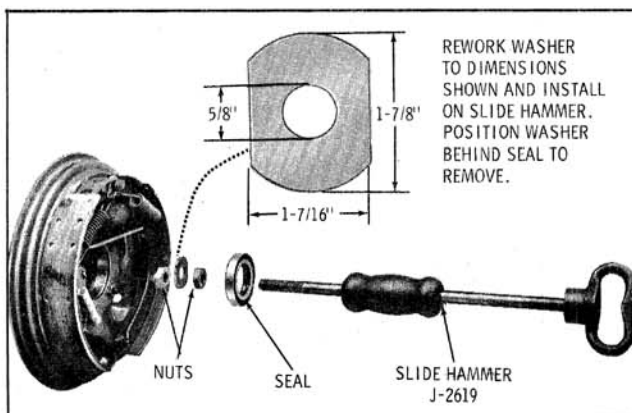

Fig. 10-11 Removing Axle Shaft Seal
2. Remove the axle shaft seal as shown in Fig. 10-11.